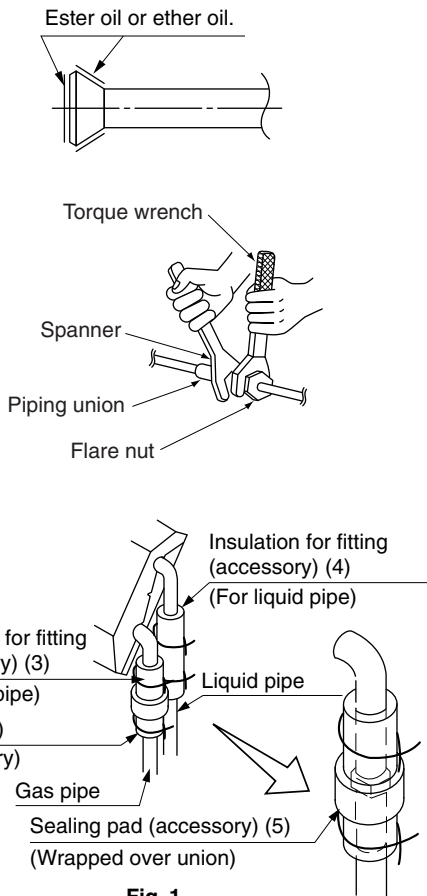

Fig. 1
- Make absolutely sure to execute heat insulation works on the pipe-connecting section after checking gas leakage by thoroughly studying the following figure and using the attached heat insulating materials for fitting (3) and (4). (Fasten both ends with the clamps (6) (accessory).) **(Refer to Fig. 1)**